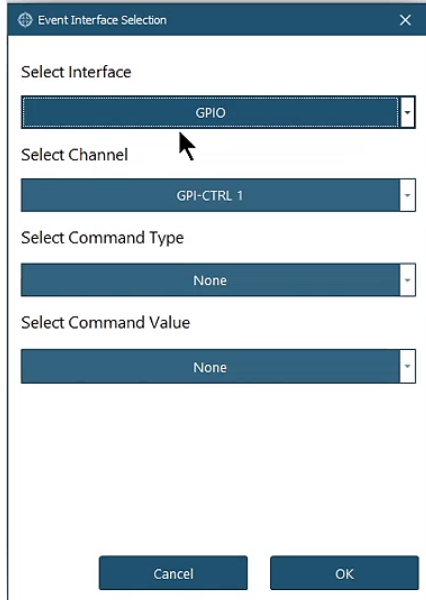
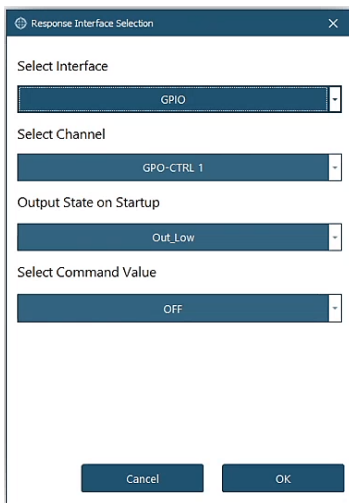

Figure 21
Figure 24
4. Select the appropriate Channel from the **'Select Channel'** drop-down menu. The options shown here will be dependent on the selected input interface. See figure 21.
5. Select the appropriate Command Type from the **'Command Type'** drop-down menu. The options shown here will be dependent on the selected input interface. See figure 21.
6. Select the appropriate Command Value from the **'Command Value'** drop-down menu. The options shown here will be dependent on the selected input interface. See figure 21.
7. Select **'OK'** at the bottom of the Event Interface Selection popup. See figure 21. The selected Event should now be visible in the Data Mapping Table. The **'Response'** field will be displayed as **'TBD'** until a response is defined by the user.
10. Select the appropriate Channel from the **'Select Channel'** drop-down menu. The options shown here will be dependent on the selected output interface. See figure 24.
11. Select the appropriate **'Output State on Startup'** from the drop-down menu. The options shown here will be dependent on the selected output interface. See figure 24.
12. Select the appropriate **'Command Type'** from the drop-down menu. The options shown here will be dependent on the selected output interface. See figure 24.
13. Select '**OK**' at the bottom of the Response Interface Selection popup. See figure 24. The 'TBD' in the Response column should now be replaced with the previously defined Response.
2. To Edit an Event in the Data Mapping Table, select **'Edit Event'** from the drop-down menu. The **'Event Interface Selection'** popup will be displayed. See figure 21. Similarly, to edit a Response, select **'Edit Response'** in the drop-down menu to display the **'Response Interface Selection'** popup. See Figure 24.